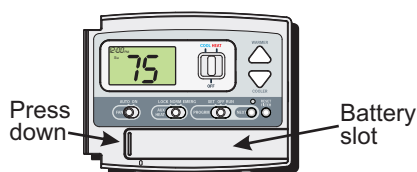

FIG. 1
- 1 The batteries are easily accessible from the battery slot located on the front of the thermostat (fig. 1). To open the battery slot, press down on the battery cover (fig. 1) and pull out (fig. 2).